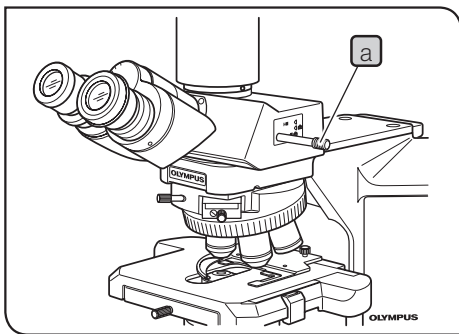

Fig.34
**4 Selecting the light path of the trinocular tube (Fig.34)**